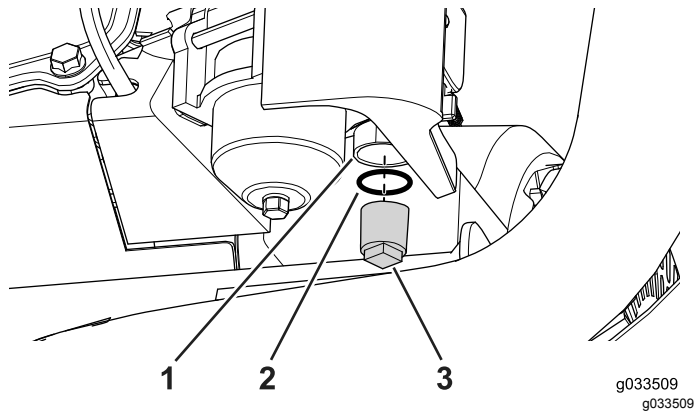

Figure 70
3. Align a drain pan under the body of the fuel-shutoff valve for the carburetor (Figure 70).
4. Rotate the sediment cup counterclockwise and remove the cup from the carburetor (Figure 70).
6. Hand tighten the sediment cup into the body of the fuel-shutoff valve (Figure 70).